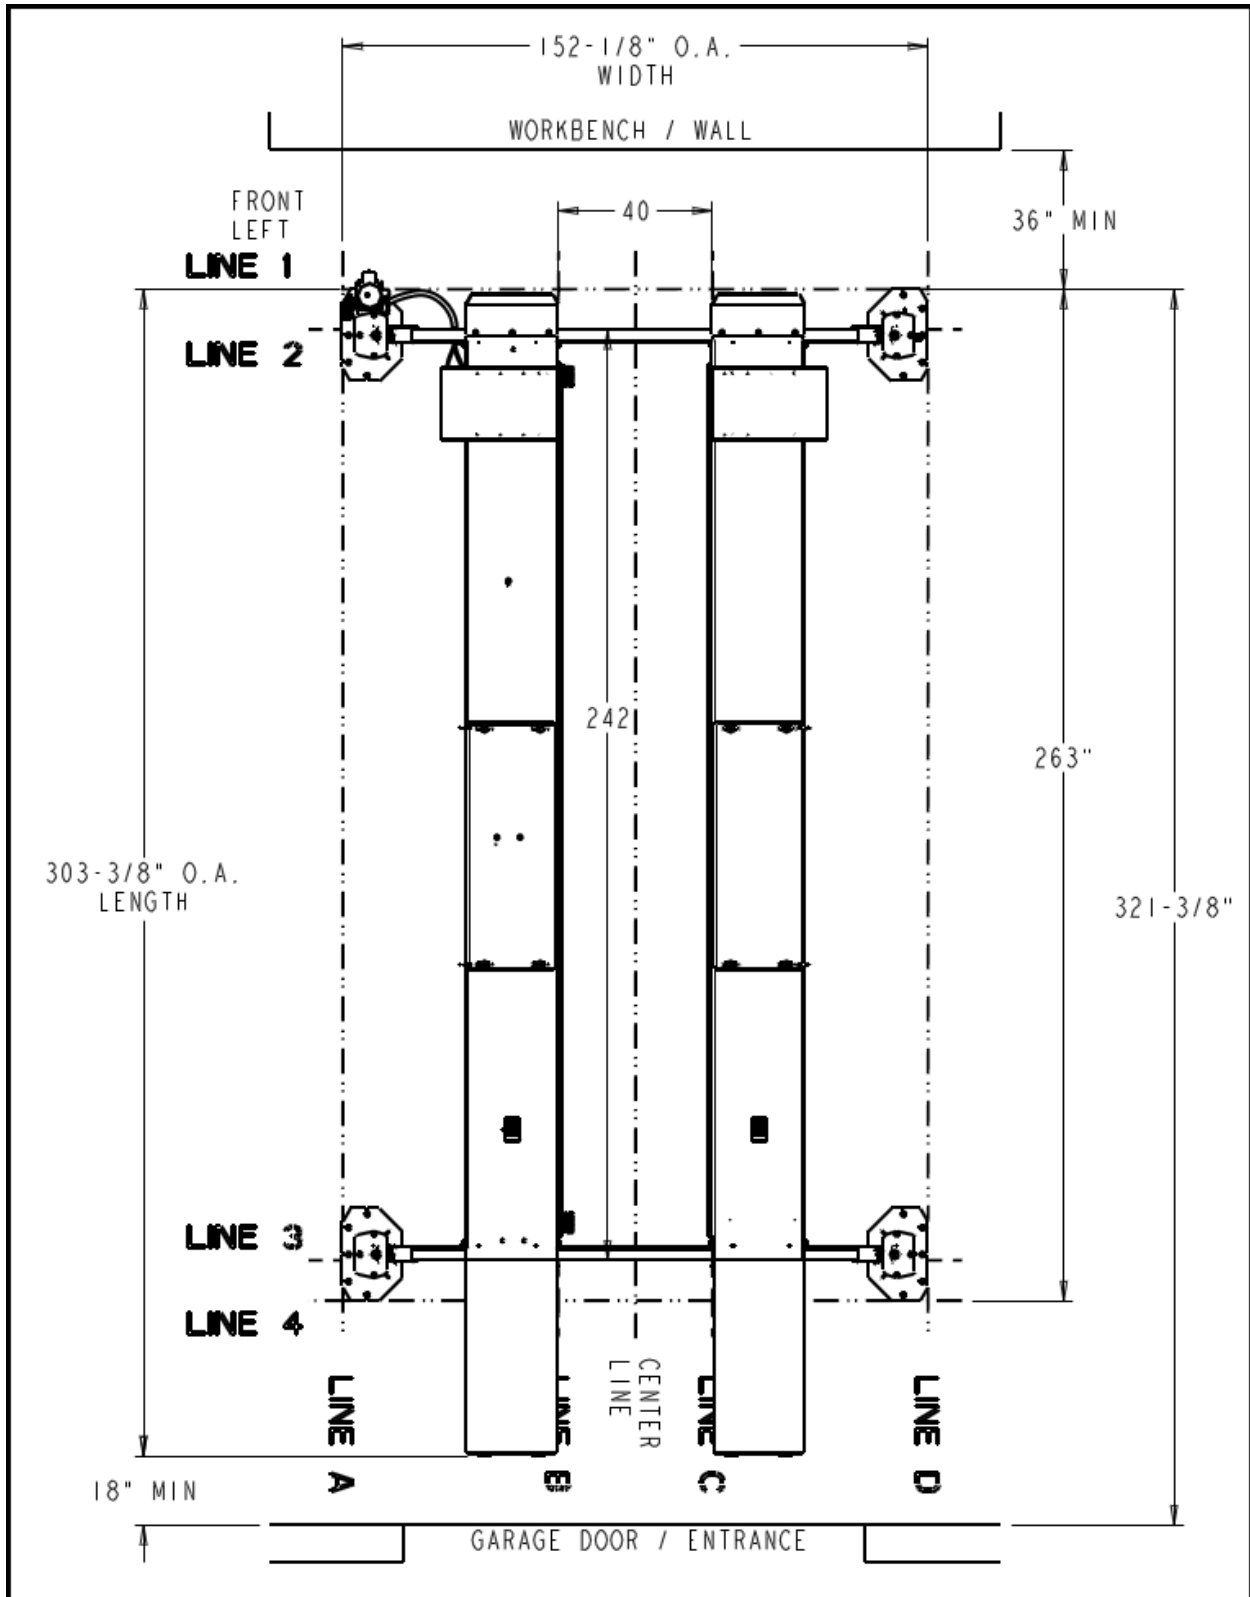
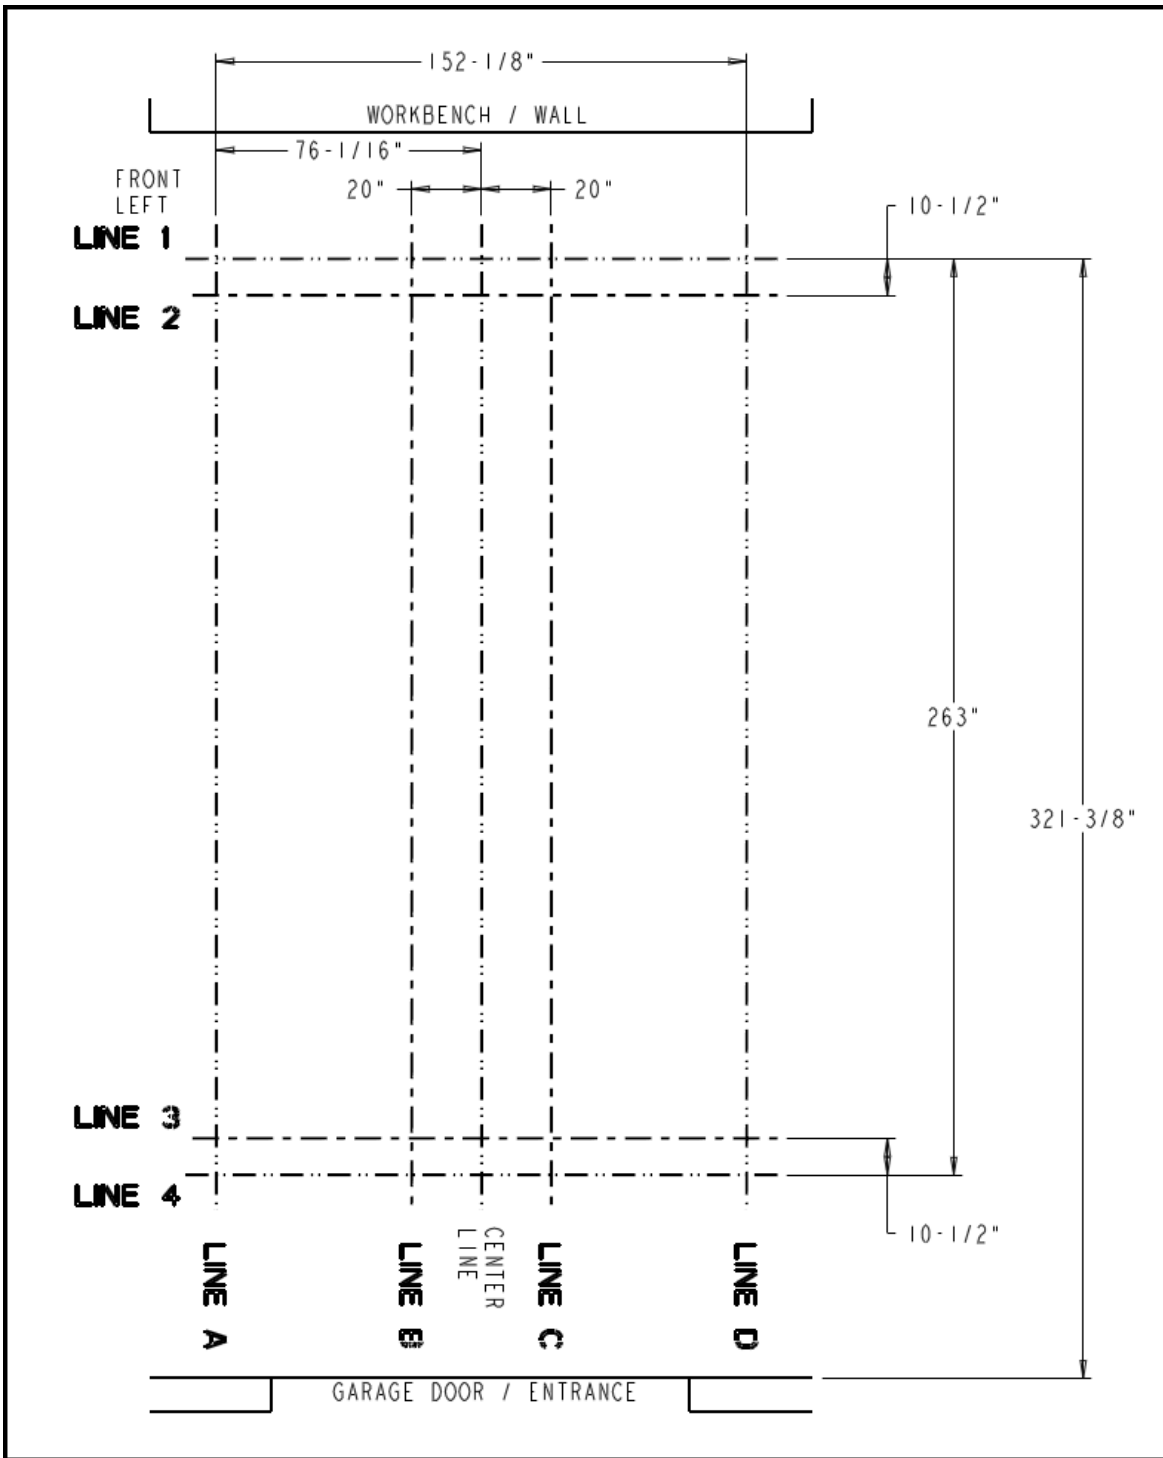

Figure 2 - Typical Bay Layout
Figure 3 - Chalk line layout
- An outline matching the dimensions shown in **Figure 2** will need to be marked on the floor. Refer to **Figure 3** for outline dimensions. Refer to General Lift Specifications for overall lift dimensions.
- Recommended minimum clearance around the lift is three (3) feet. Ensure clearance conforms to local building and fire codes.
- Recommended overhead clearance is a minimum twelve (12) foot ceiling providing 6 feet for the maximum lift height and 6 feet for the supported vehicle. For vehicles taller than 6 feet it is recommended that the user provides additional overhead clearance or a shut off mechanism to stop the lift from raising the vehicle too high.
1. **Refer to Figure 2 & 3.** Make a chalk line parallel to the doorway at least 321-3/8" in from the doorway. This will be the location for the front face of the tower baseplate. Call this line "1".
Before proceeding, check that the layout matches that shown in Figure 3, that the lift is square and that there is a 40" gap between the decks along their entire length. This dimension is critical as it is necessary to allow the jackbeams to roll freely.